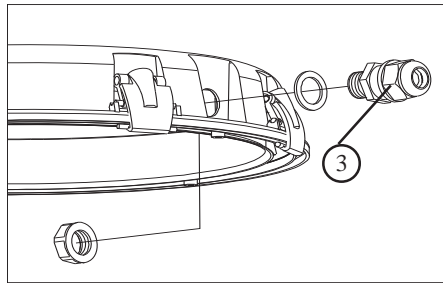

Fig. 2
4. **Install Water-tight Fitting (3).** *Note: Fixture is supplied with a Water-tight Fitting for Romex® cable. If power supply is to be connected by conduit or another method, please use appropriate water-tight fitting.* Locate the open hole on the plastic housing. Remove the Knock Out (KO) from the side of the metal pan enclosure. To remove KO, insert flat blade screwdriver into top edge of KO and pry-open. Grip edge of KO with pliers and flex back and forth until removed. Remove nut from small threaded end of Water-tight Fitting (3). Do not remove Washer. Insert small threaded end of fitting into open hole on outside of Fixture Housing (1). (Washer should be outside of housing). Install nut onto threaded portion of fitting inside of Fixture Housing. **See Fig. 2.** Tighten until secure. *Note: Fitting must be secured tightly to housing to eliminate water entering into fixture housing.*